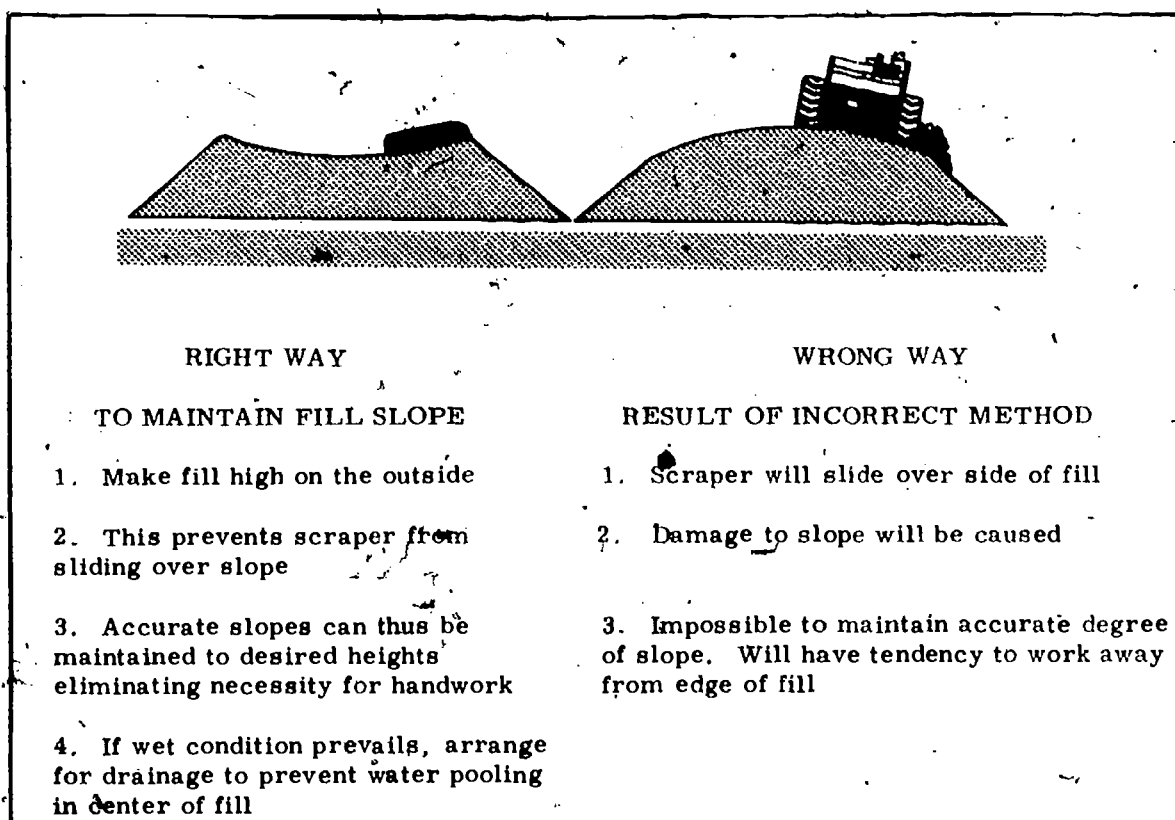

Fig 4-47. Method of spreading to maintain fill slopes.
- (d) **Fill techniques:** Figure 4-47 illustrates the proper technique for building a fill with a scraper. Keep the shoulders (outside edges) of a fill higher than the center; this prevents the scraper from sliding over the edge when dumping close to the edge, and also helps to maintain the proper slope angle as the fill is built up. The correct procedure for dumping material in the center of the fill until you approach the area where you desire to dump; then swing the tractor and scraper diagonally out onto the shoulder of the fill. Swing the tractor parallel to the edge of the fill and begin to dump the scraper. This will cause the material to be spread high on the outside and low on the inside of the fill. This procedure is effective in maintaining both the correct concave (low in the center) cross-sectional area of a fill and in maintaining the convex (high in the center) cross-sectional area of a through cut. When the shoulders have been brought up to the prescribed grade elevation, the center can be quickly filled in just before final leveling and finishing. Before closing down the job for any substantial period, fill in the low center to provide adequate drainage in the event of rain.